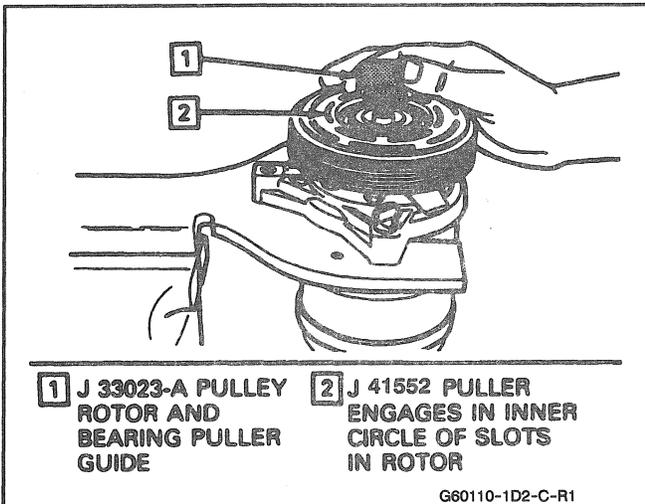
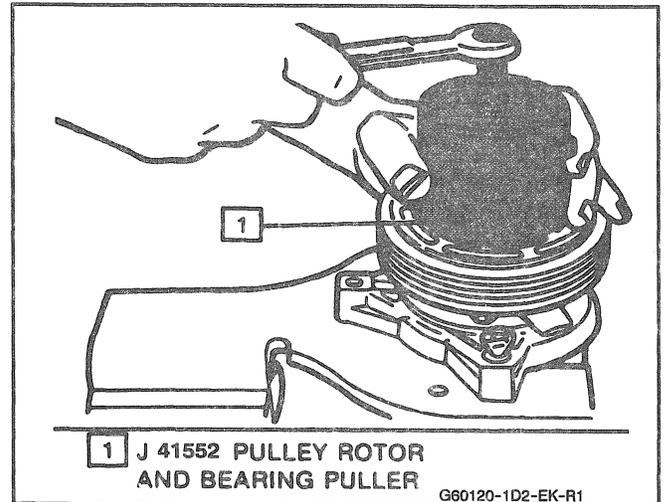

Fig. 7 Installing Pulley Rotor/Bearing Puller Guide
Fig. 8 Removing Pulley Rotor and Bearing Assembly
5. Install the clutch plate and hub installer—remove J 33013-B with bearing as shown in Figure 8.
3. Install pulley rotor and bearing puller guide J 33023-A to the front head (Fig. 7) and install J 41552 pulley rotor and bearing puller down into the inner circle of slots in the rotor. Turn the J 41552 puller clockwise in the slots in the rotor (Fig. 8).